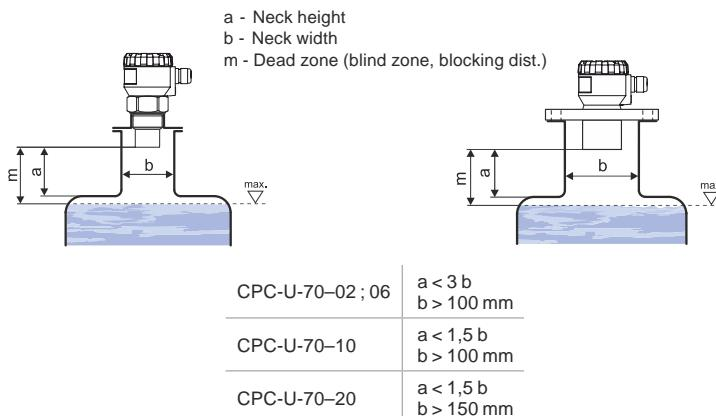

Fig. 4: Possible installation of the installation neck
- If the maximum surface level in the tank interferes with the dead zone, the level meter has to be mounted into a higher installation neck. In this way, the tank can be filled nearly up to the maximum volume. The inner neck surface has to be even and smooth (without edges and welded joints); the inner edge should be rounded where the ultrasonic wave leaves the pipe. The neck diameter should be as large as possible but the neck height should be as low as possible. Recommended dimensions of the input neck are given in Fig. 4